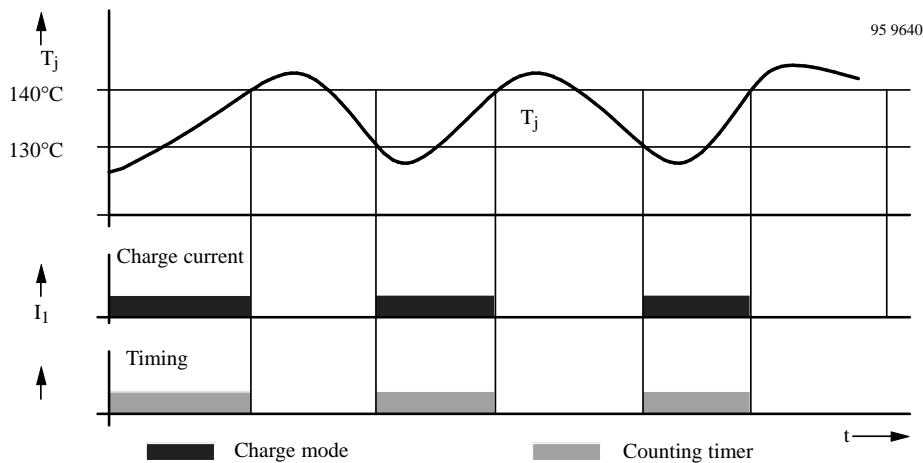

Figure 4. Charge duration – overtemperature
The oscillator is connected to GND via Pin 3 ( $V_3$ ) which holds the present time status. When the chip temperature decreases below the transition value, all functions are released and the charge time is continued. The process is reversible. If there is a higher power dissipation in the circuit ( $T_j > 140^\circ\text{C}$ ), the temperature monitoring remains permanently activated (ON). The total cycle time is prolonged according to the interrupt-time duration, see figure 4.